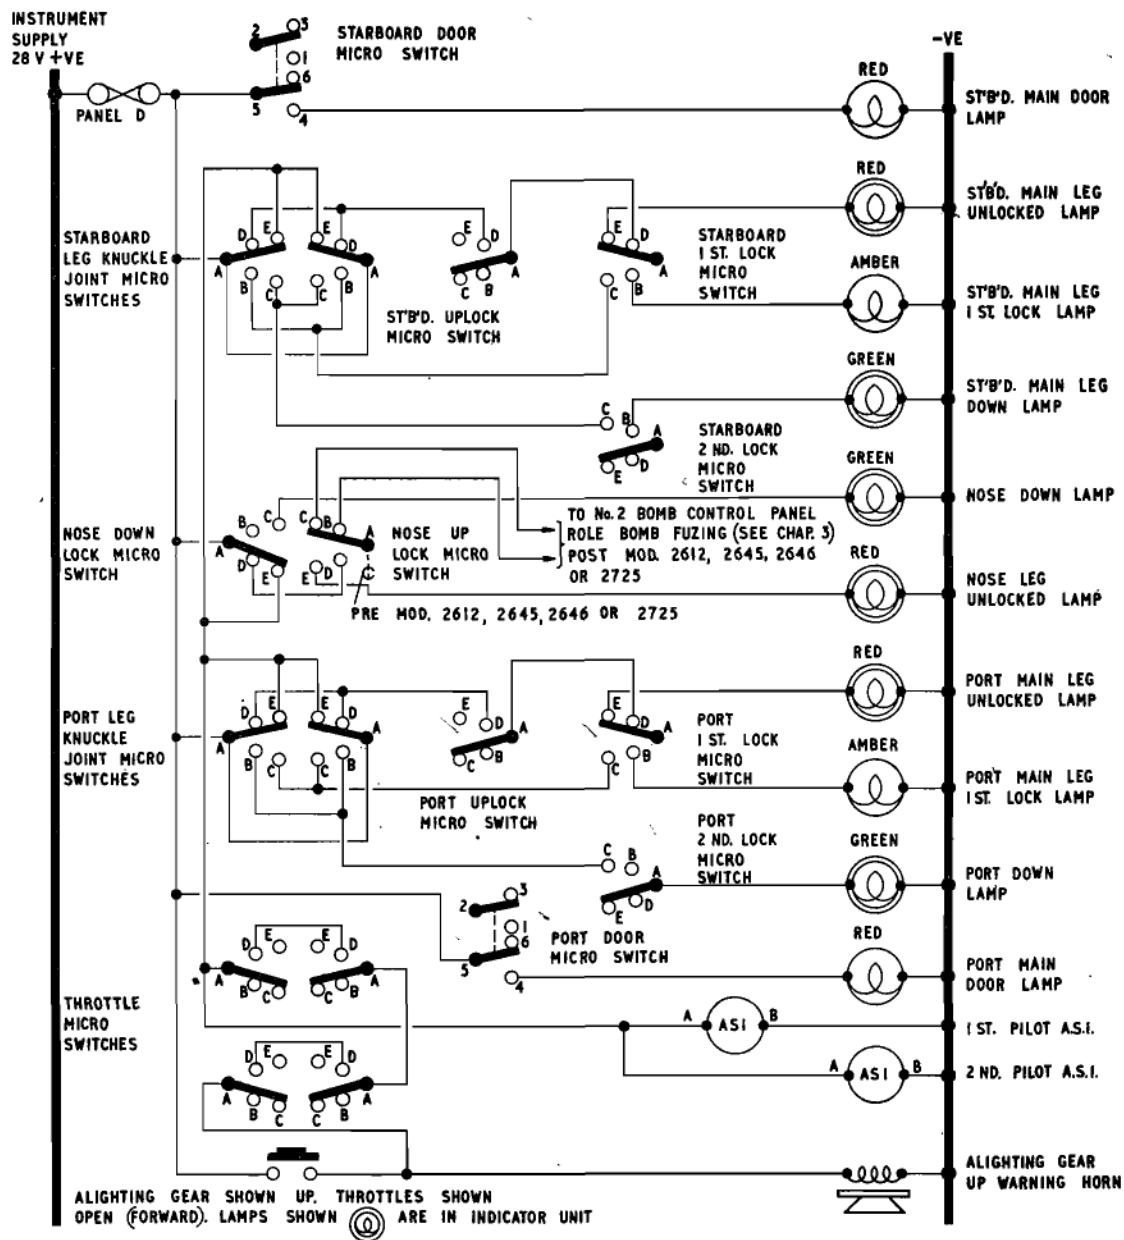

Fig. 7. Alighting gear indication and warning horn (post mods. 2118, 2257 and 2202)
**Post Mod. 2257 (fig. 7)**
#### Indicators (fig. 7)